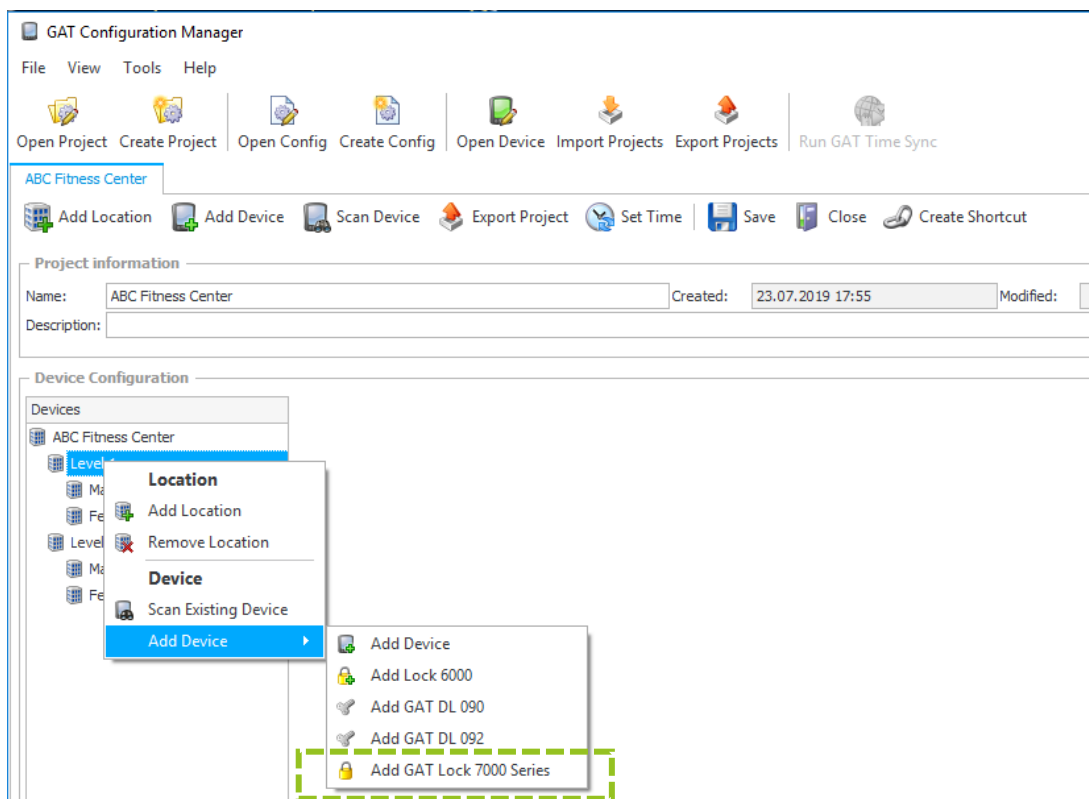

Figure 5.3 – GAT Config Manager – Adding a GL7p
- ▶ To add a GL7p to a location, right-click on the location and select “Add GAT Lock 7000 Series” from the “Add Device” menu (Figure 5.3).